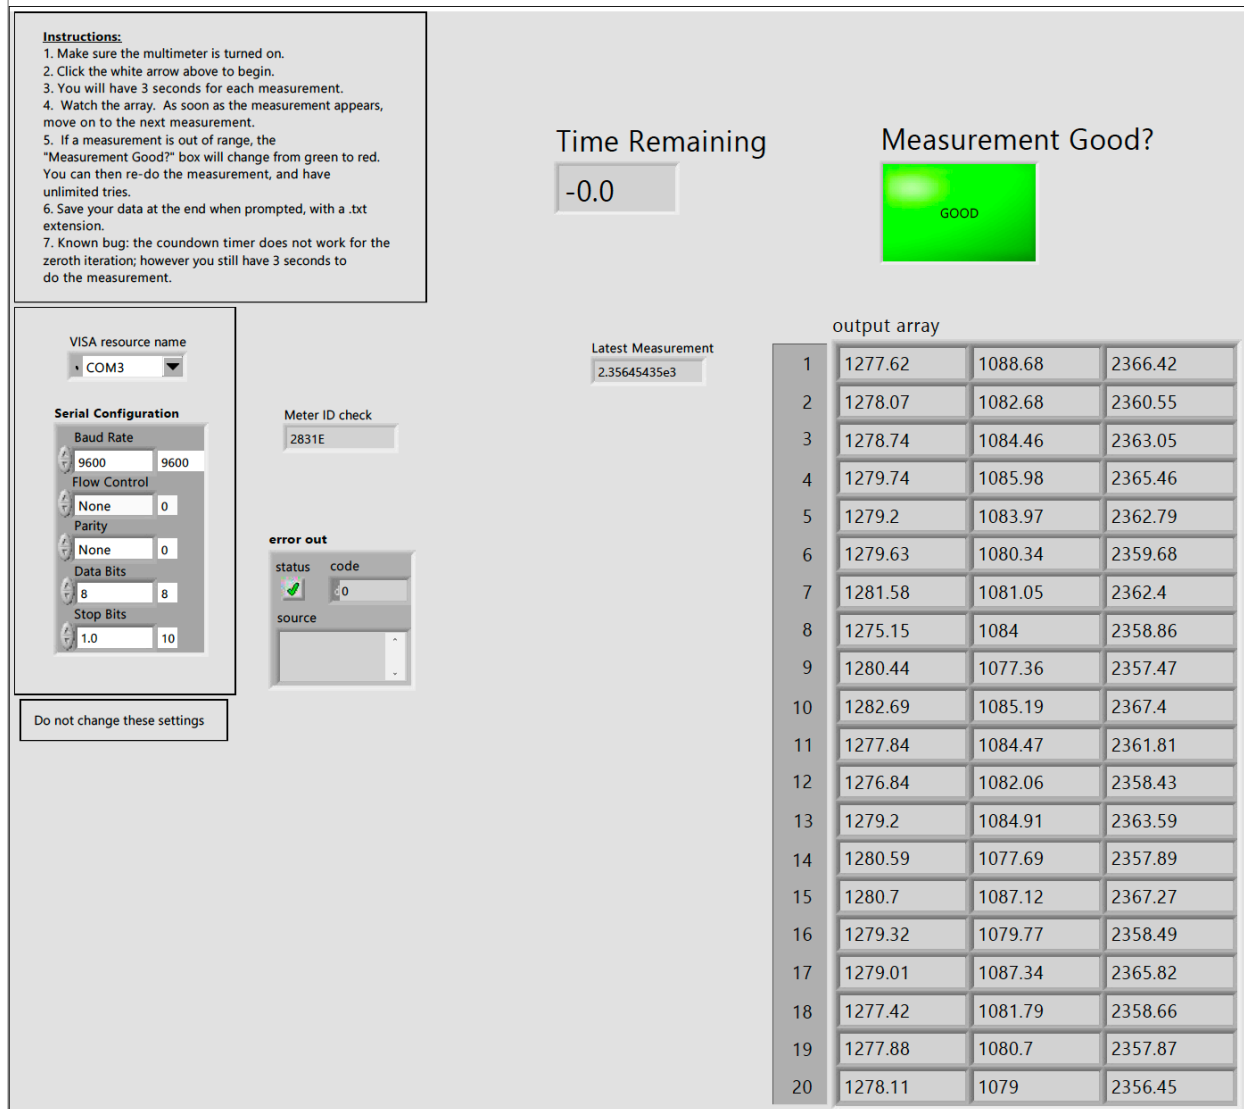

Fig. 3: A screen capture of the LabView program Error_Propagation.
6. Insert the other end of the 2-pin cable into the first two pins of the 4-pin connector to measure R_1 . Start with the resistor pair labelled R1 and R2 on the upper left-hand corner. If the measured resistance is $\sim 1.3 \text{ k}\Omega$, the measured value will be displayed and the button under “Measurement Good?” will turn from red to green (Fig. 3), indicating that you are ready to measure R_2 .